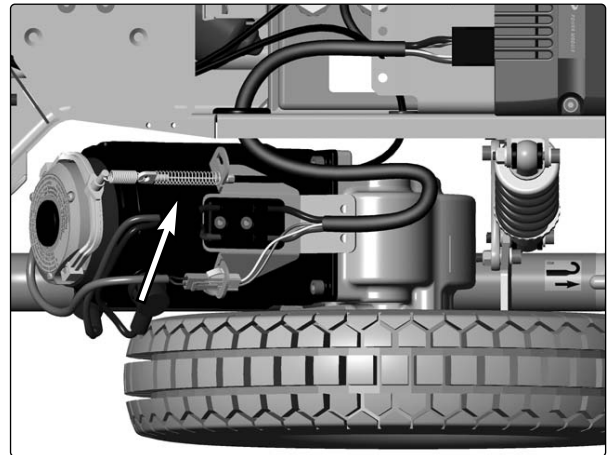

Fig. 38. Remove the wheel lock release cable.
6. Pull the cable casing forward, out through the slot in the cable holder and detach the wheel lock release cable from the magnetic wheel lock; see figure 38.